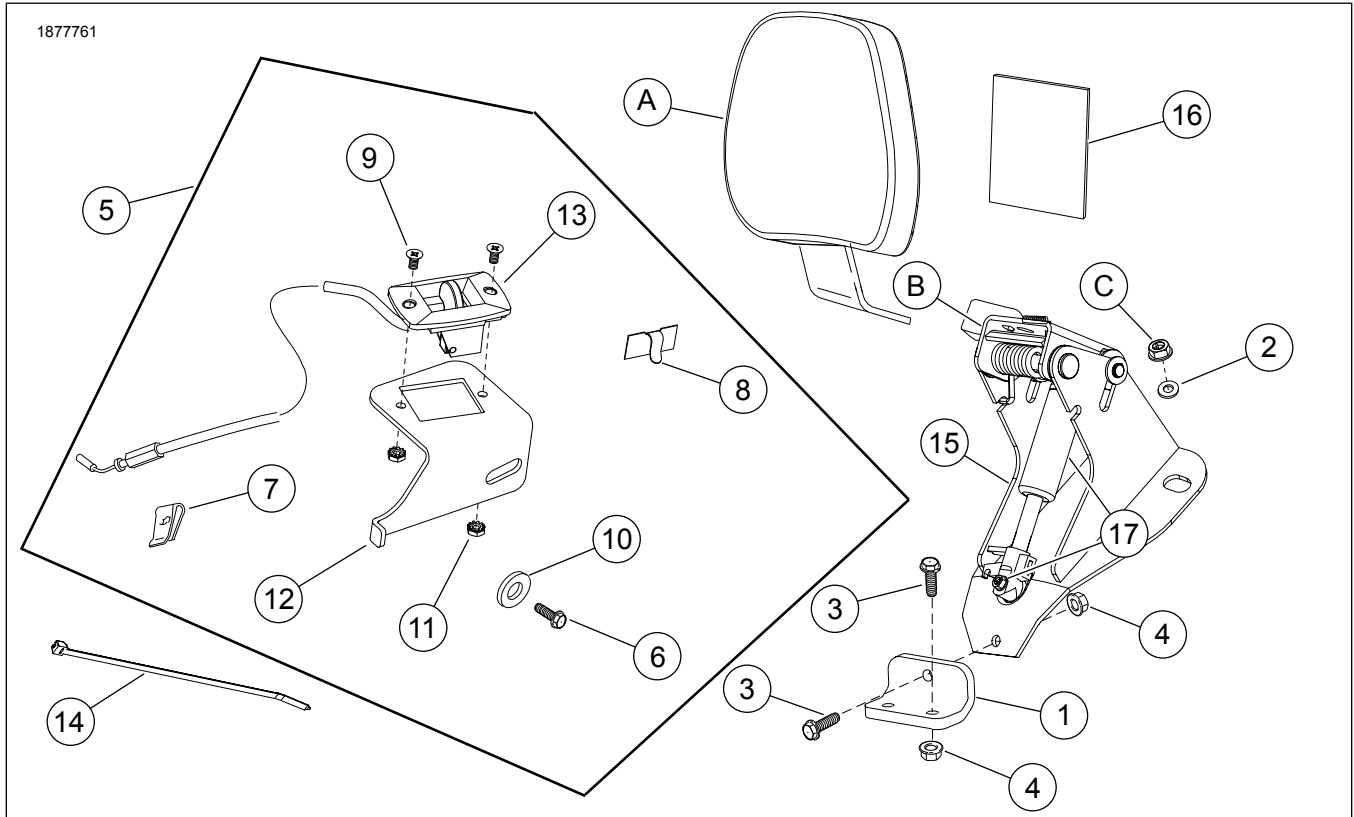

Figure 1. Kit Contents: FL Adjustable Rider Backrest Mounting Hardware Kit
9. See Figure 1. Install actuator handle (13) with cable to actuator handle bracket (12) so the cable is pointing down when installed.
10. Secure with screws (9) and nuts (11).